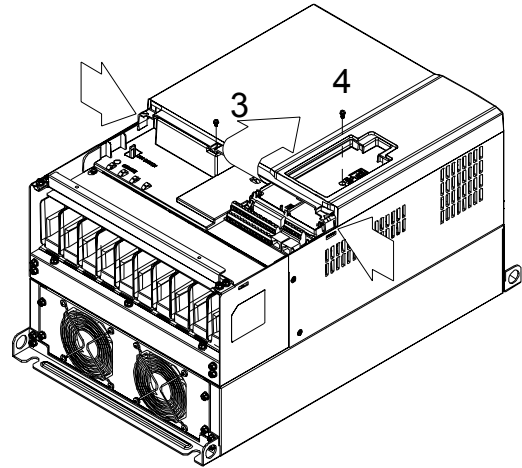

Figure 2
2. (Figure 2) Loosen screw 3 and screw 4, press the tab on the right and the left to remove the cover. Screw torque: 6~8kg-cm (5.2~6.9in-lbf).